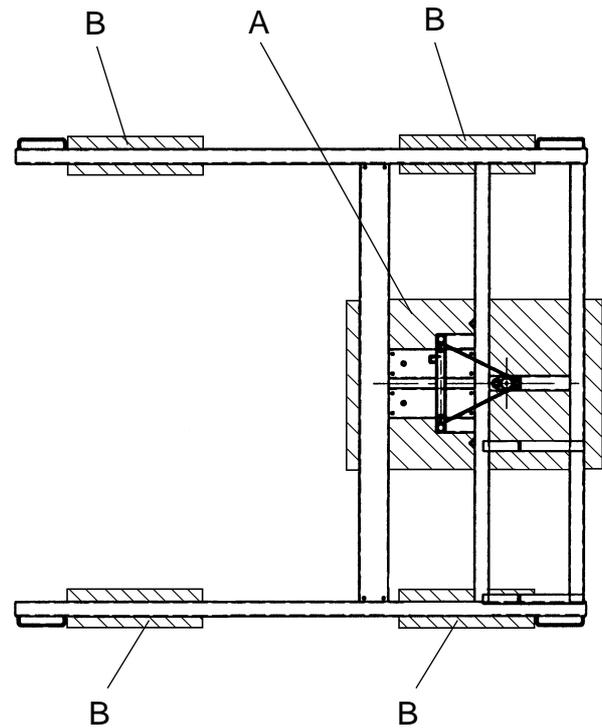

Fig.6-1 Positioning of the ground support
- The ground support must be flat, and centrally loaded (fig. 6-1).